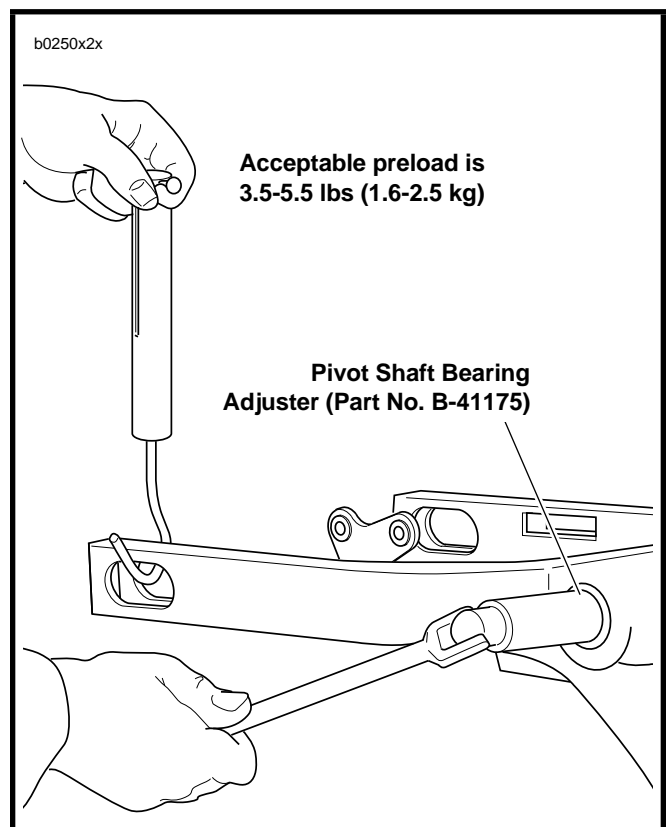

Figure 2-40. Adjusting Swingarm Preload
- Adjust swingarm preload. Using a scale as shown in Figure 2-40. Preload should measure 3.5-5.5 lbs (1.6-2.5 kg).
- Remove both pinch screws (8). Apply LOCTITE THREADLOCKER 242 (blue) to pinch screw threads.
- Check that swingarm is centered between mounts. Torque pinch screws (8) to 27-30 ft-lbs (36.6-40.7 Nm).